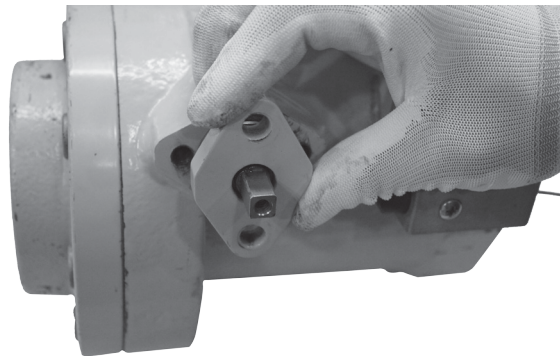

Figure 20. Turn retainer (step 9)
9. Install the gland retainer over the gland. Turn the retainer about 1/4 turn clockwise, Figure 20, then let the spring turn the gland back until it stops.